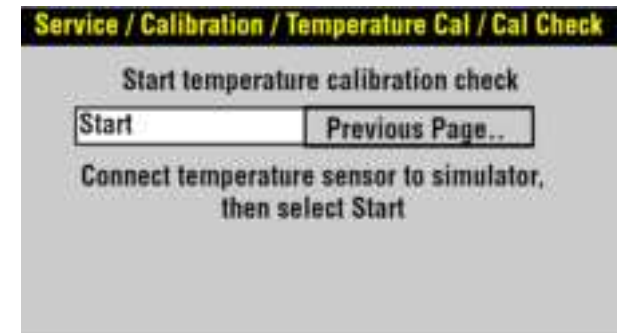

Figure 1.15—Starting calibration check
5. Connect the temperature sensor to the device and select the Start button as shown in Figure 1.15